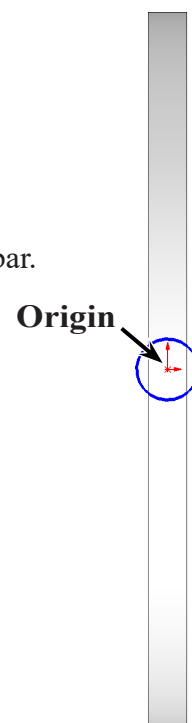

Fig. 9
Step 4. Sketch at **circle at Origin** , **Fig. 9**.